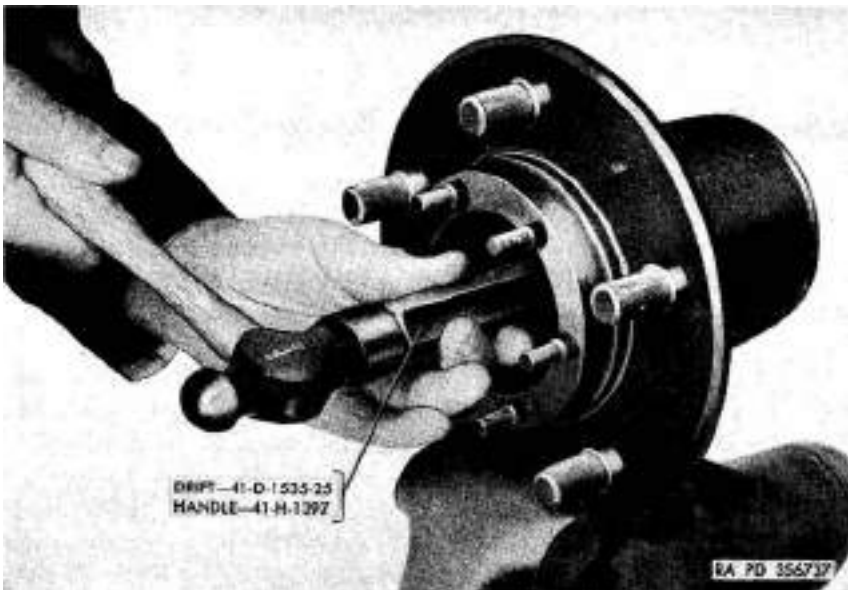
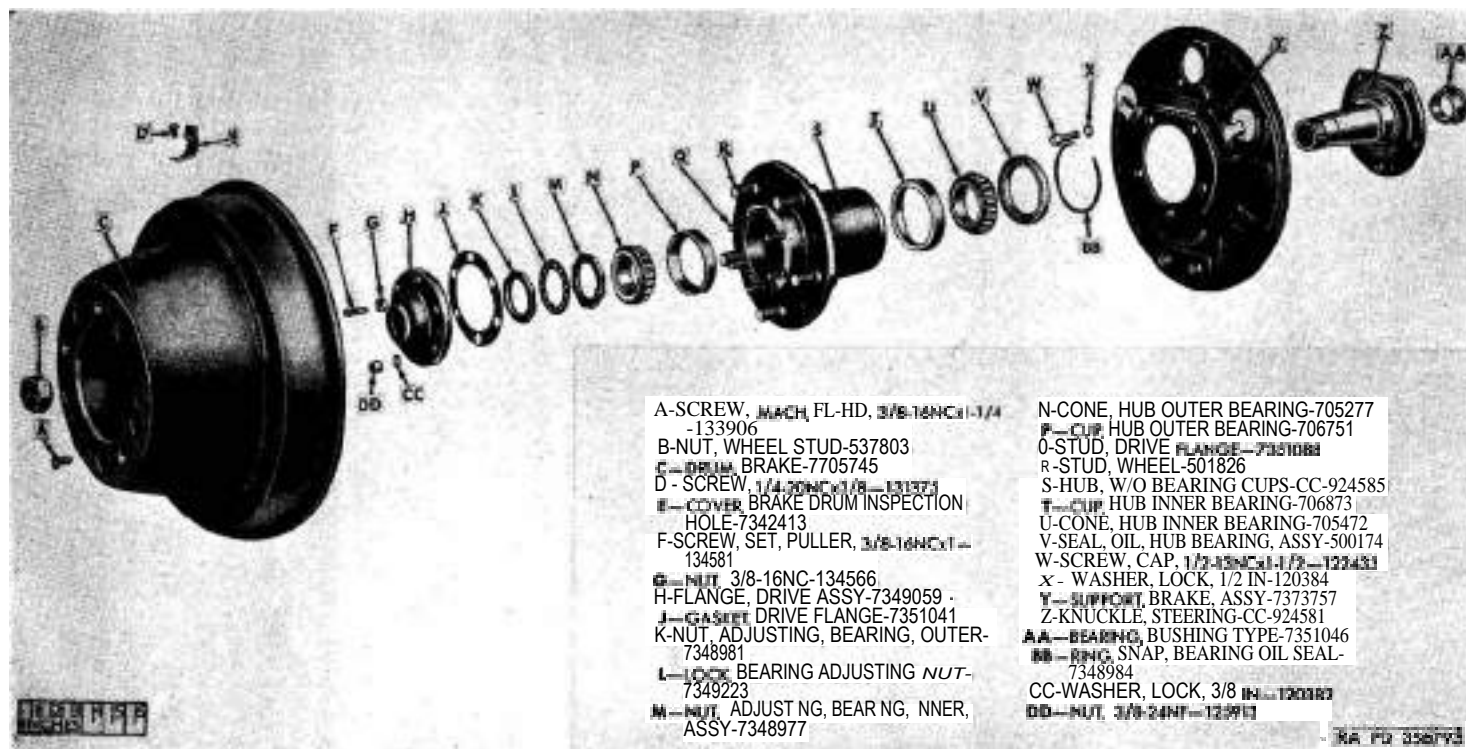

Figure 53. Removing hub inner bearing cone and hub bearing oil seal assembly.
Figure 54. Hub with brake drum assembly—exploded view.
c. *Disassemble Hub Assemblies (fig. 54).* Remove bearing oil seal snap rings (BB). Insert drift 41-D-1535-25 and handle 41-H--1397 (fig. 53) into hub from outer end and drive hub inner bearing cone (U) and hub bearing oil seal assembly (V) from hub in one operation.
d. *Remove Hub Inner and Outer Bearing Cups (fig. 54).* If inspection (par. 75b) of hub inner and outer bearing cups (P and T) reveals that replacement is necessary, remove them with a brass drift and hammer. Openings are provided in the hub forgings for the drift.
a. *Inspect Hubs (fig. 54).* Inspect hubs without bearing cups (S) for damage and loose bearing cups. Inspect drive flange studs (Q) and wheel studs (R) for damaged threads. If hub is damaged or there is evidence of a loose bearing cup, replace hub. If the wheel studs or drive flange stud threads are worn or damaged, replace studs (par. 76b).
b. *Inspect Hub Rearing Cups and Hub Bearing Cones (fig. 54).* Inspect hub outer and inner bearing cups (P and T) and hub outer and inner bearing cones (N and U) for cracks, chipped spots, pitting, or wear. If any of these conditions exist, replace bearing cups (pars. 74d and 76a) and bearing cones (pars. 74c and 76c).
c. *Inspect Brake Drums (fig. 54).* Refer to chapter 11 for inspection information on brake drums (C).
b. *Install Wheel Stud.* If replacement of a wheel stud (R, fig. 54) is necessary (par. 75a), install stud with an arbor press making certain flat portion of head corresponds with the shoulder on hub.
c. Install Hub Inner Bearing Cones, Hub Bearing Oil Seal Assemblies, and Bearing Oil Seal Snap Rings (fig. 54).
Pack hub inner bearing cones (U, fig. 54) with specified lubricant (refer to TM 9-840). Coat interior of hubs with a small quantity of specified lubricant and place bearing cones in hub. Position the newly prepared hub bearing oil seals (V, fig. 54) so that lip of seals face roller bearings. Drive oil seals squarely into hub with replacer 41—R-2392-405 (fig. 56) just far enough to permit installation of bearing oil seal snap ring (BB, fig. 54).
i. *Remove Bushing-Type Bearings From Steering Knuckles (Z, fig. 54).* If inspection (par. 78c) reveals that replacement is necessary, remove bushing-type bearings (AA, fig. 54) with a puller (fig. 60).